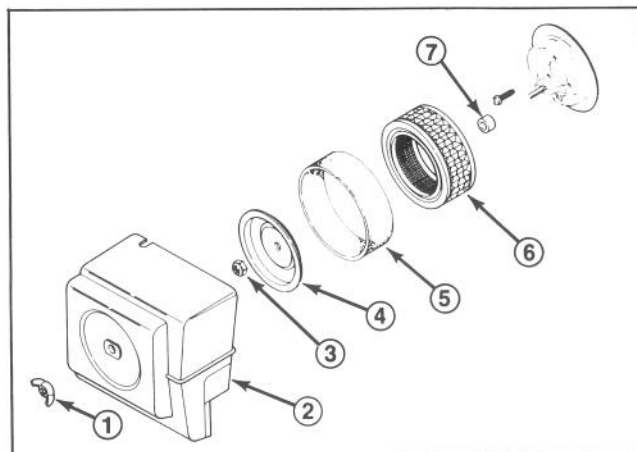

Figure 32
1. Remove wing nut and cover (Fig. 32).
2. Remove foam pre-cleaner by sliding it off the paper element (Fig. 32).
5. Reinstall element with pre-cleaner, element cover seal, air cleaner element cover, nut, air cleaner cover and wing nut (Fig. 32).